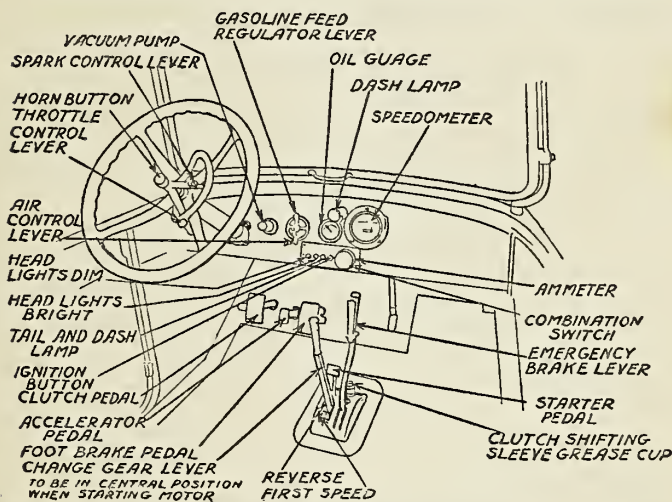

FIG. 9.—The fittings of the driver's compartment of a Hudson Super-Six.
(2) To stop the car press on the clutch pedal and the brake pedal at the same time, and (3) if you are in danger of running into something pull the hand emergency brake back also at the same time with all your might. But this procedure is mighty hard on the tires, so avoid it if possible. See Fig. 9 and also A Fig. 75.